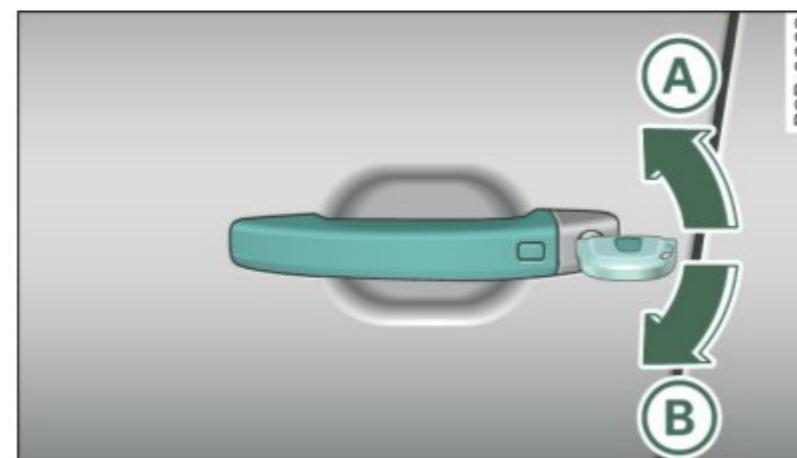

Fig. 37 Key turns for opening and closing
- Turn the mechanical key to position **A** ⇒ fig. 37.